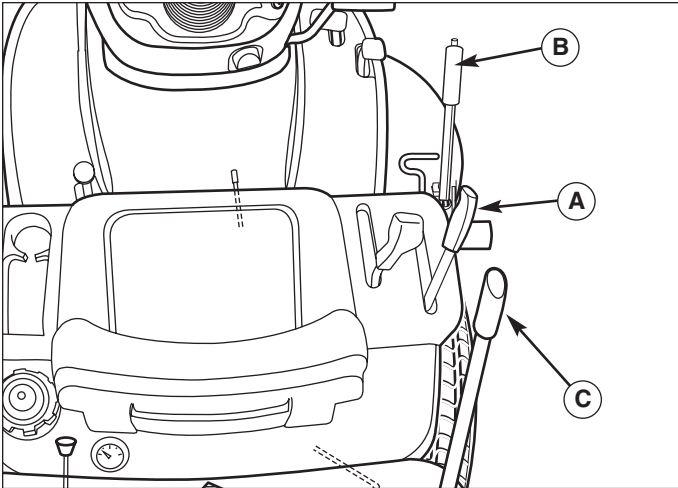

Figure 9. Raising & Lowering Mower
2. Place mower in the lowest cutting position using the mower height adjuster (B, Figure 9).
3. Place the mower lift lever (A, Figure 9) in the lowered position.
2. Place mower height adjuster (B, Figure 9) in the lowest cutting position. Place the mower lift lever (A) in the lowest position. Slide mower deck under right side of tractor so that mower hitch is aligned with front tractor hitch.